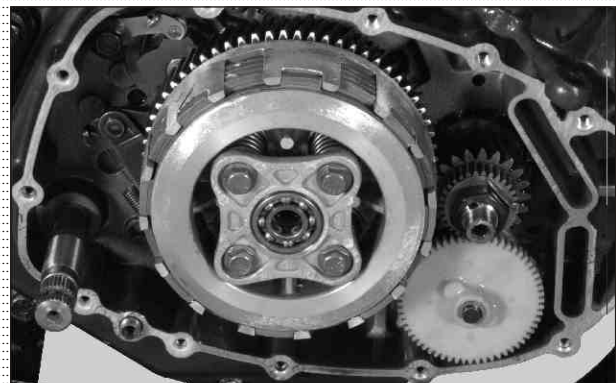

Fig. 3.21
- While reassembling, ensure the clutch plates are held firmly together by checking the play between the drive plates after tightening the plate clutch release. (Fig. 3.21)